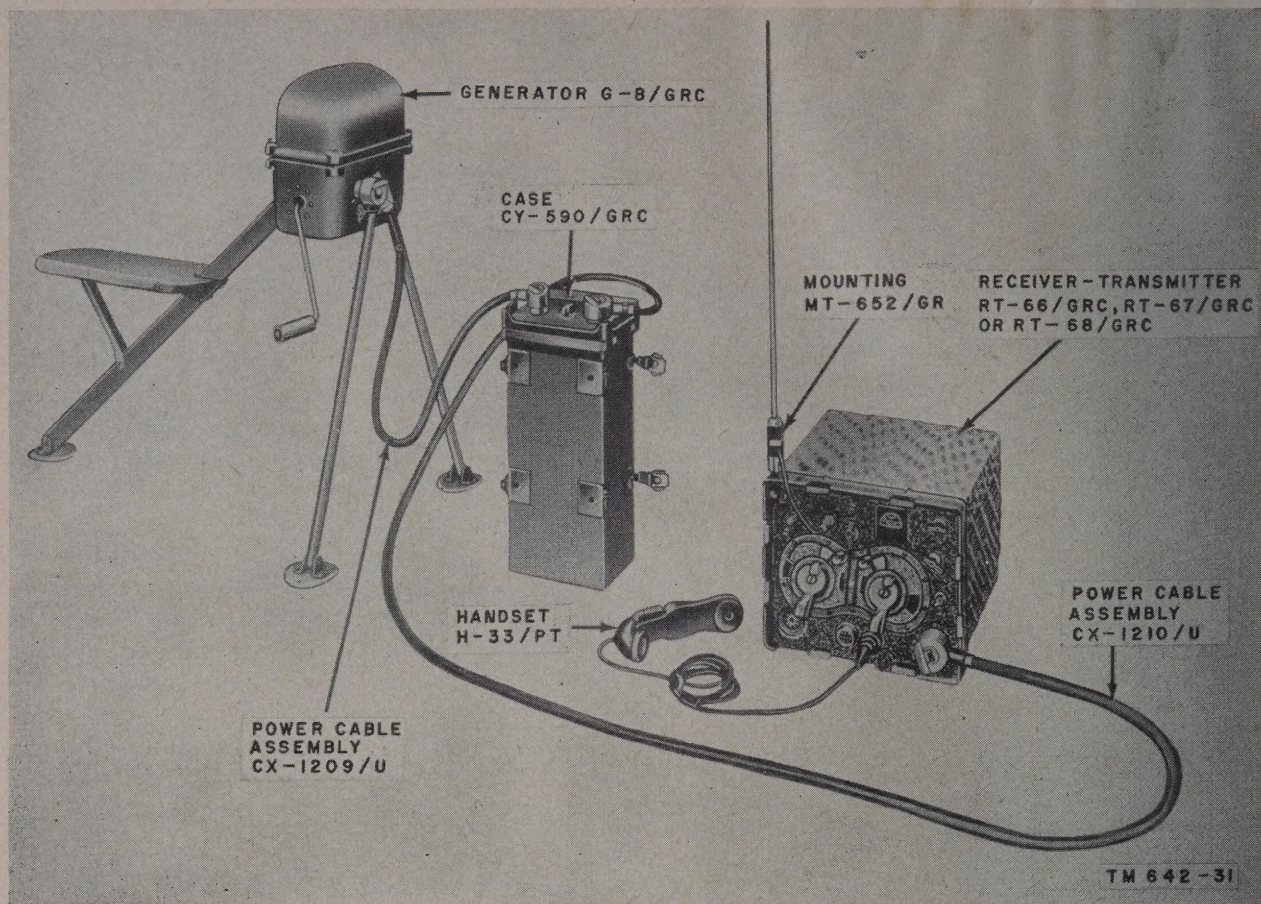

Figure 96. Field installation of Set 1 with Generator G-8/GRC and Case CY-590/GRC.
167. Set 1 With Generator G-8/GRC and Case CY-590/GRC (fig. 96)
- (1) Remove Set 1 from Mounting MT-297/GR and pack it in the unused Bag CW-188/GR. Carry the three bags (two Bags CW-188/GR and one Bag CW-187/GR) to the location selected for field operation of the set.
- (2) Set up the generator, battery case, and Set 1 receiver-transmitter as illustrated in figure 96. Refer to TM 11-5037 for detailed information about the generator. Turn the OFF-ON-REMOTE CONTROL switch of the battery case to the OFF position.
- (3) Connect the 14-pin connector of Power Cable Assembly CX-1209/U to the generator and the other end to the 9-pin connector on the battery case.
- (4) Connect either end of Power Cable Assembly CX-1210/U to the 14-pin connector on the battery case and the other end to the POWER IN receptacle on Set 1.
- (5) Insert the antenna mounting into the hole at the top front of the receiver-transmitter. Turn the mounting clockwise to lock it in place. Connect the lead-in wire to the ANT connector. For Receiver-Transmitters RT-66/GRC and RT-67/GRC, assemble the five mast sections (one mast Section AB-22/GR, three Mast Sections AB-22/GR, and one Mast Section AB-24/GR) and screw the assembly into the antenna mount. For Receiver-Transmitter RT-68/GRC, assemble three of the mast sections (one